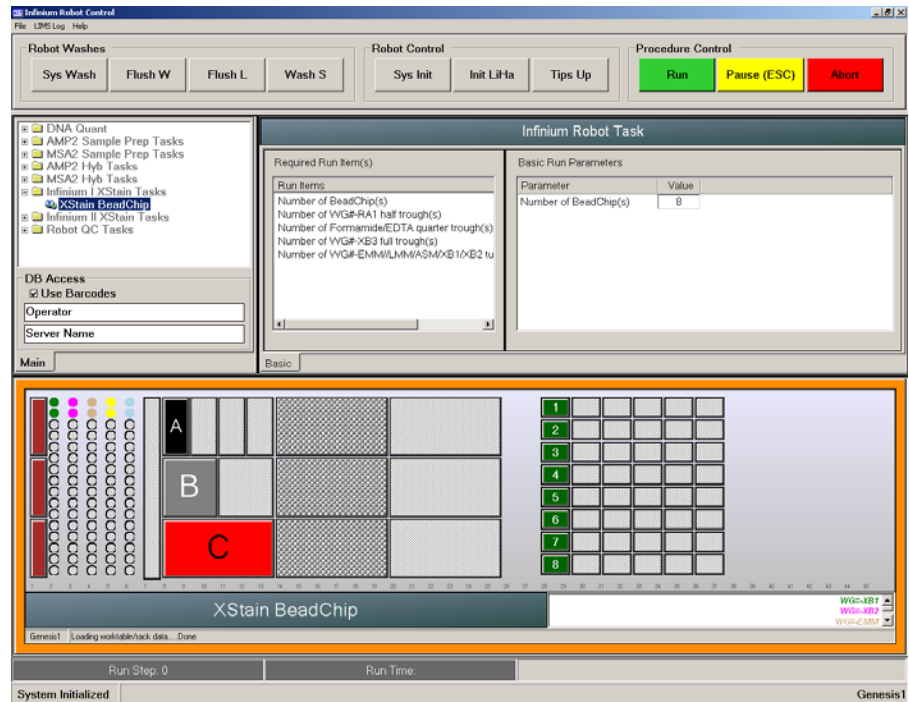

Figure 166 XStain BeadChip Screen
3. Place a quarter reservoir in the reservoir frame, according to the robot bed map (Figure 166), and add 15 ml 95% formamide/1 mM EDTA.